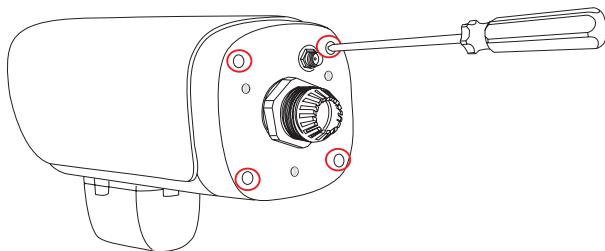

Fig. 1
1. Loosen the four screws on the backplate of your camera and put it aside. (See. Fig.1)